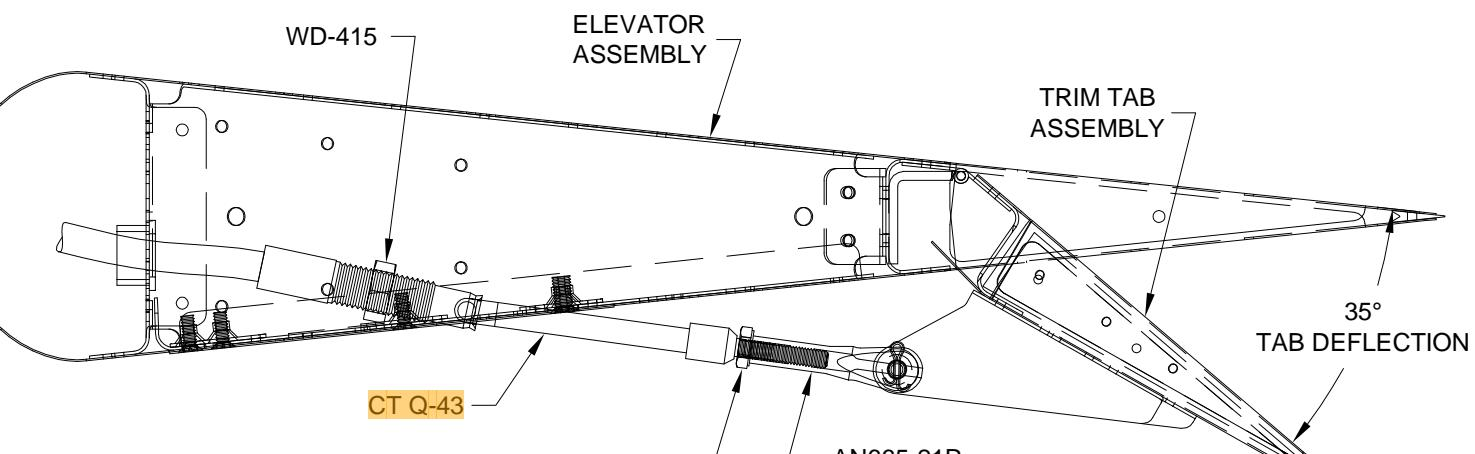

FIGURE 3:
Step 3: (continued) Adjust the engagement of the jam nut and clevis onto the trim cable so that the tabs are in the 35 degrees TAB DOWN position as shown in Figure 3.